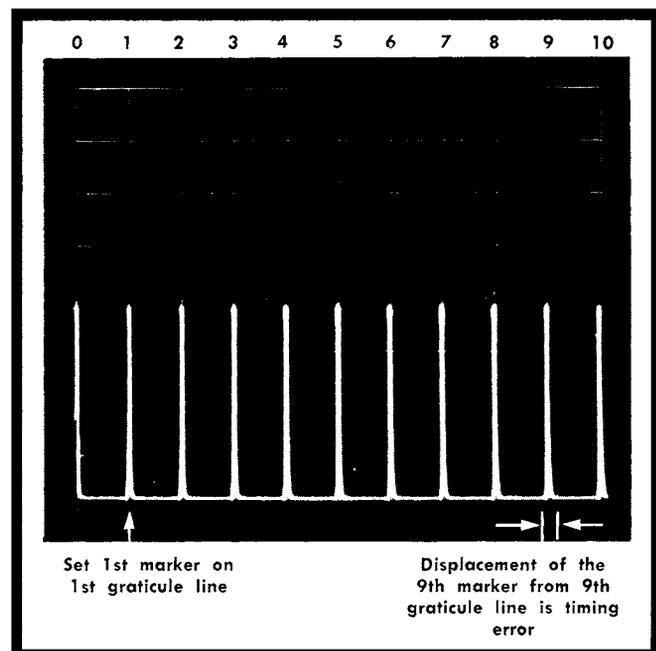

Fig. 5-1. Time markers aligned to check sweep timing.
- Adjust the position control to position the 1st marker to the 1st graticule line (see Fig. 5-1), then check the sweep timing for each position of the TIME/DIV selector. Marker input, TIME/DIV selector and type of display is listed in Table 5-1.